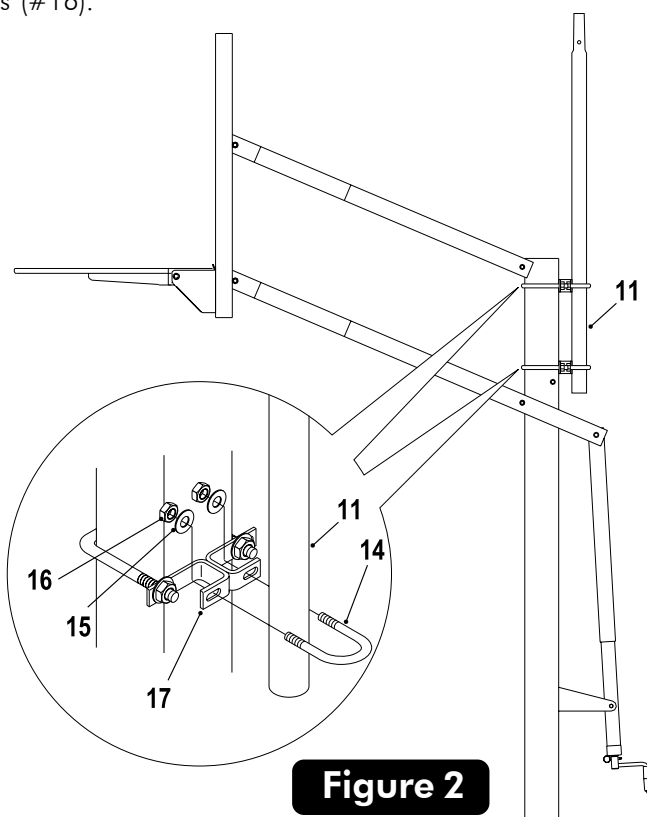

Figure 2
4. Hold Pole Section "D" (#11) next to the Black Brackets (#17) with 1" of pole below the bottom Black Bracket (#17). Place a U-Bolt (#14) around the Pole Section "D" (#11) and into the small slots of the Black Bracket (#17). Secure using the two flat washers (#15) and hex nuts (#16). See Figure 2. **Note: Do not over tighten as there may be some adjusting required.**